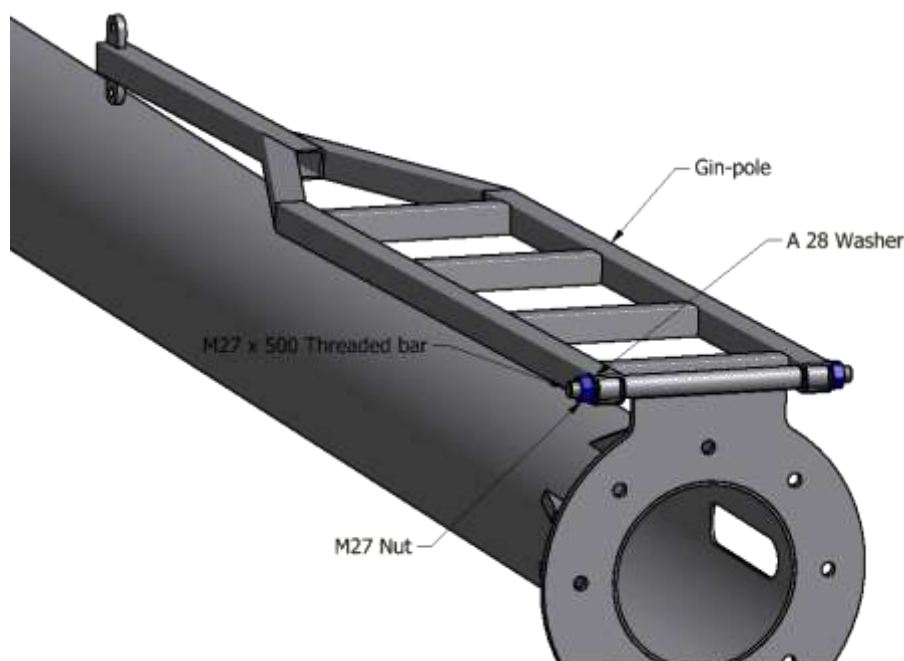

Figure 8 – Placing the gin-pole
1. Place the gin-pole hinge pipes between tower 1st segment hinge (see Figure 8).
3. Remove the M27 nuts and A 28 washers from the M27 threaded bar connecting the gin-pole to the tower 1st segment and remove the gin-pole (see Figure 8).